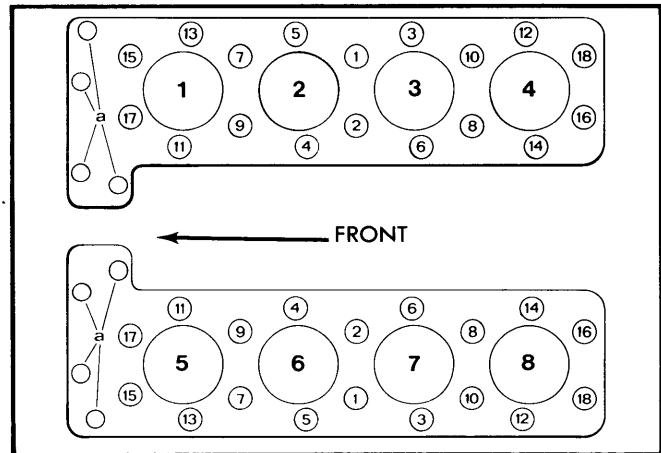

Fig. 1 Cylinder Head Tightening Sequence
3) Unbolt exhaust pipe at manifold. Remove timing chain tensioner. Remove timing chain guide rails. Mark camshaft sprocket and timing chain. Carefully remove camshaft sprocket, letting timing chain fall down. Remove cylinder head bolts in reverse of tightening sequence. (Fig. 1).